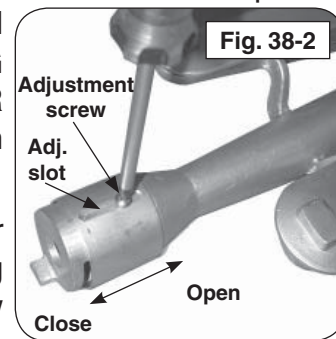

Fig. 38-2
2. Adjust the air shutter opening by loosening the adjustment screw with a screwdriver, then sliding the air shutter backward or forward to open or close the air shutter opening (see Fig. 38-2).